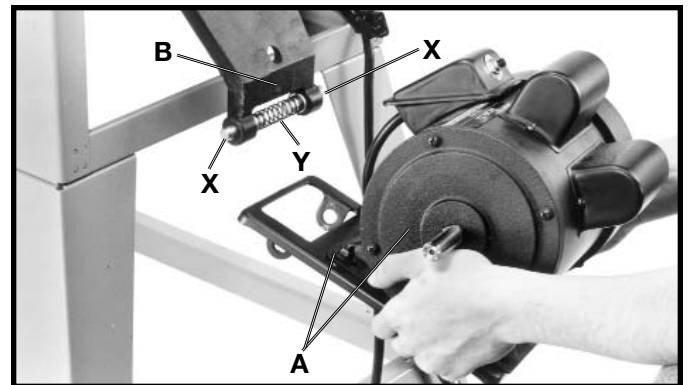

Fig. 17
1. Insert a pin (X) Fig. 17, into the holes in each side of bracket (B). **NOTE: INSERT THE TAPERED END OF PIN (X) FIG. 17, THROUGH THE INSIDE HOLE OF BRACKET (B).**
2. Assemble spring (Y) Fig. 17, onto the non tapered end of each pin (X) as shown.
3. Position motor and motor mounting plate (A) Fig. 17, below bracket (B) to allow bracket arm to slide through large opening in motor mounting plate (A).
4. Depress pins (X) Fig. 18, on both sides of bracket (B) and rotate motor mounting plate (A) until pins (X) are engaged in holes (D) Fig. 17, of motor mounting plate (A).